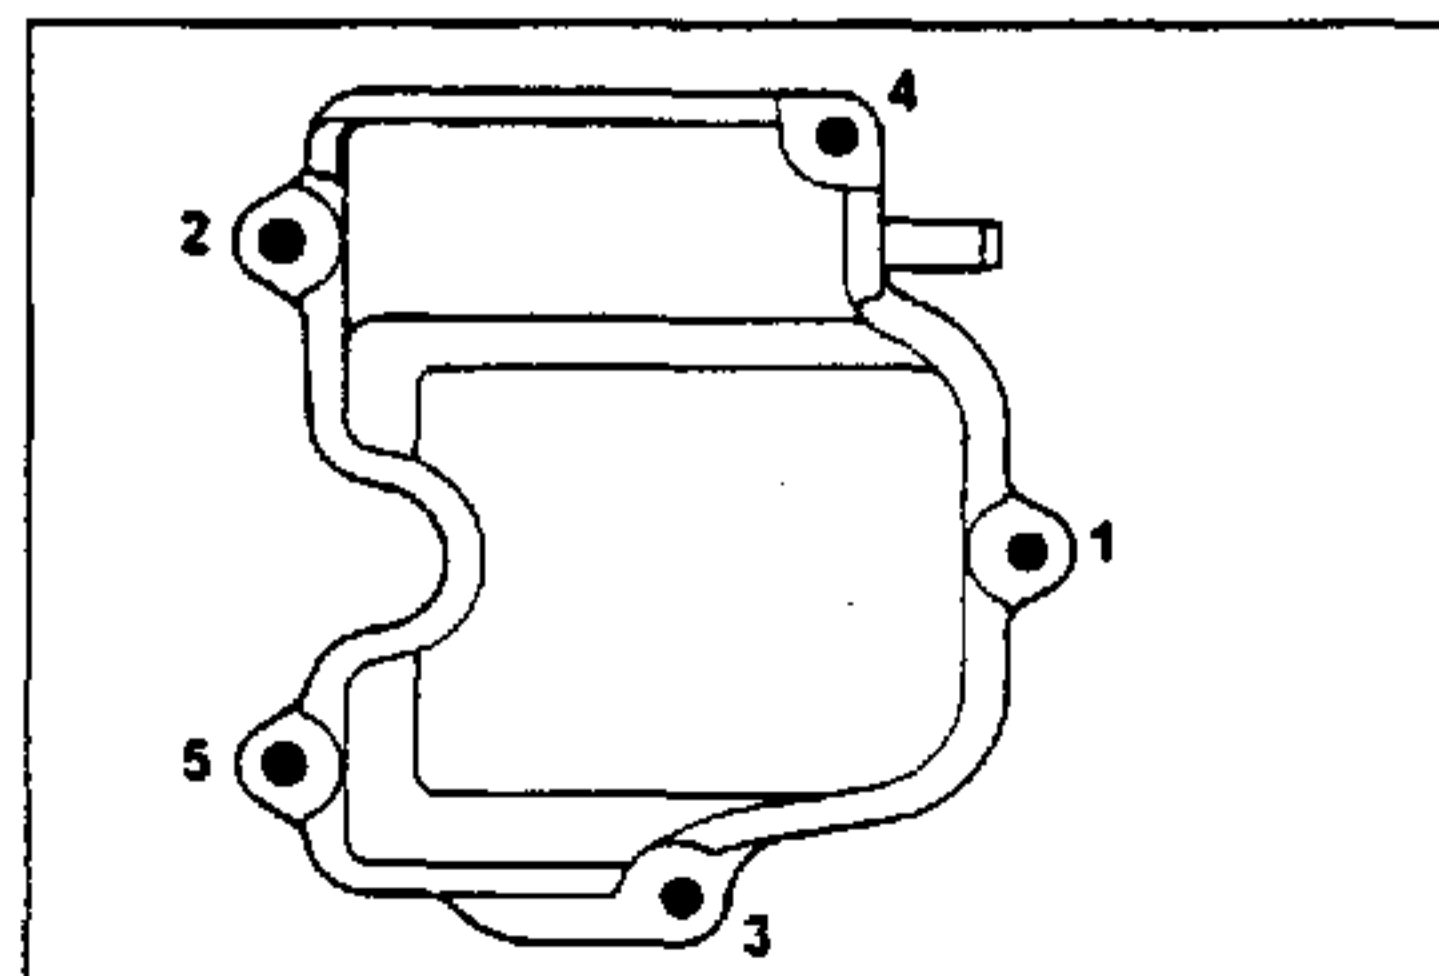

Figure 4. Valve Cover Torque Sequence.
9. Position the valve cover on the head and reinstall the hex. flange screws and any brackets removed in Step 2. Torque the screws in sequence (see Figure 4) to 65 in. lbs.